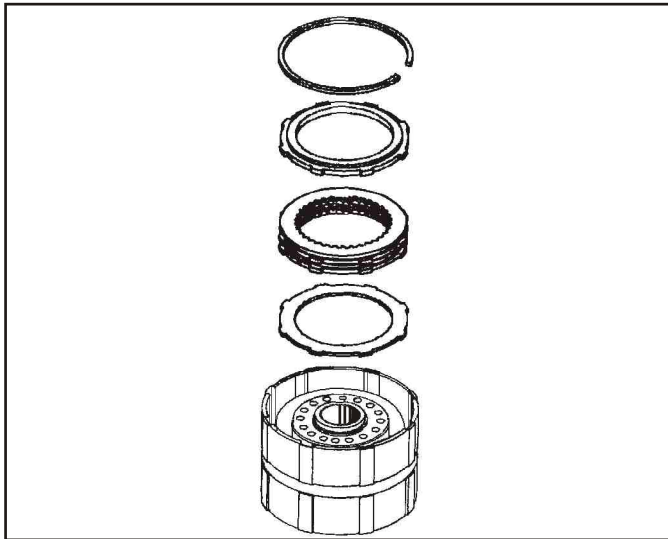

Figure 98
- Remove the backing plate snap ring, the backing plate, the single sided clutch plates and clutch apply plate (See Figure 98).